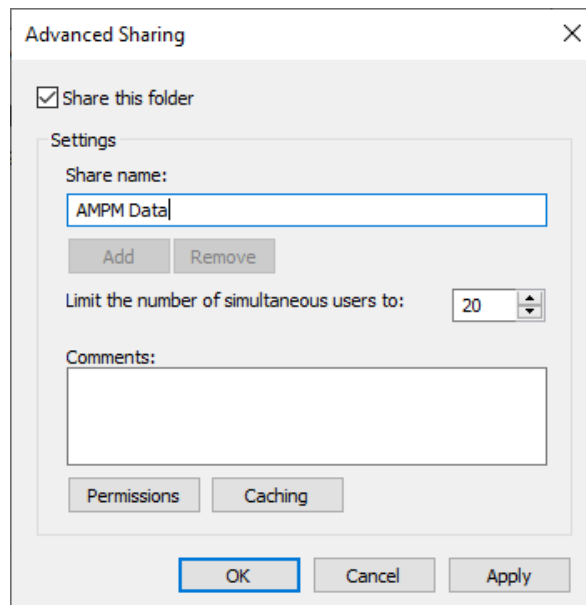

Figure 45 Share this folder (Partager ce dossier)
2. Cochez la case **Share this folder** (Partager ce dossier) (voir la Figure 45).